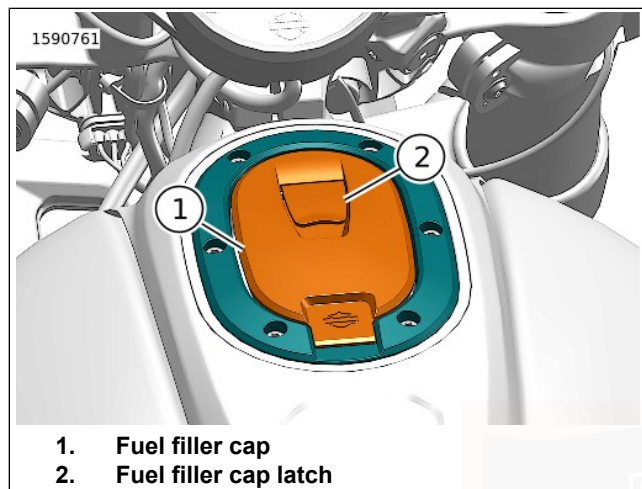

Figure 10. Fuel Tank
See Figure 10. Lift fuel filler cap latch (2) to open filler cap (1).